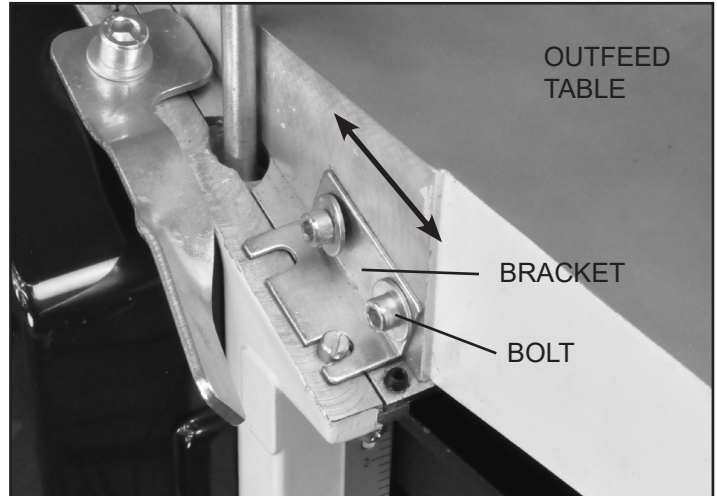

FIG. 19
6. To adjust the HEIGHT of the table, loosen the hex Bolts that fasten the Brackets (#158) to the side of the outfeed table. Carefully slide the table forward or backwards to change the table height. FIG. 19. Re-fasten the bracket's hex bolts once the two tables are level with each other.